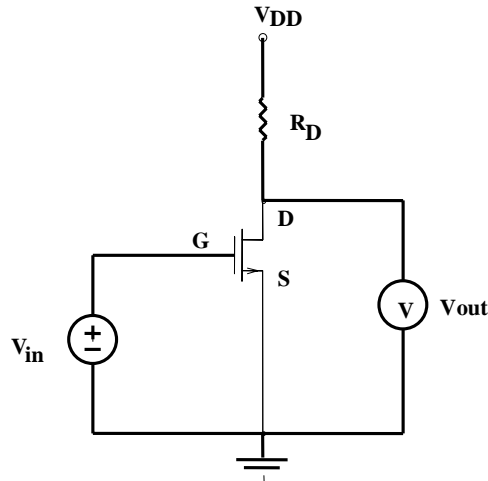
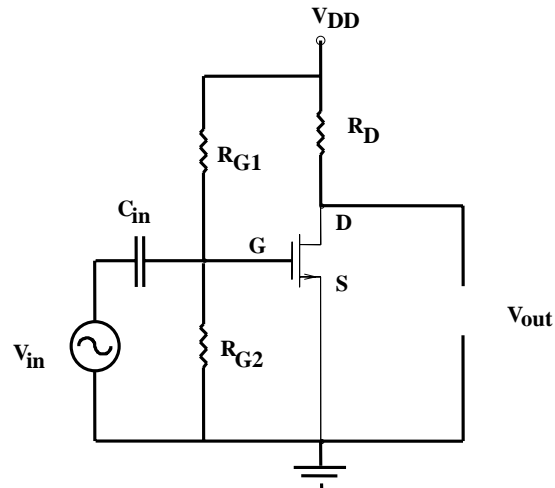

Figure 2. A MOSFET Inverter
Figure 3. A common-source (CS) MOSFET amplifier
1. In Fig. 3 find R_{G1} and R_{G2} such that $V_{GS} = 2$ volts. Compute I_D and V_{DS} if $V_T = 1$ volt and $k_n'(W/L) = 0.5 \text{ mA/V}^2$ (see eqns. 4.5a,b in Sedra and Smith). Remember that this is a DC analysis, so set $v_{in} = 0$. (Note: there are many correct solutions for R_{G1} and R_{G2} !)
Build the simple MOSFET inverter shown in figure 2. You may use any of the three n-channel MOSFETs on the CD4007, but don't forget to connect pins 7 and 14 as described above!
To use the circuit in Fig. 2 as an amplifier, we need to add a circuit to the *gate* which sets the bias point (V_{GS}). One way to do this is shown in Figure 3 below: